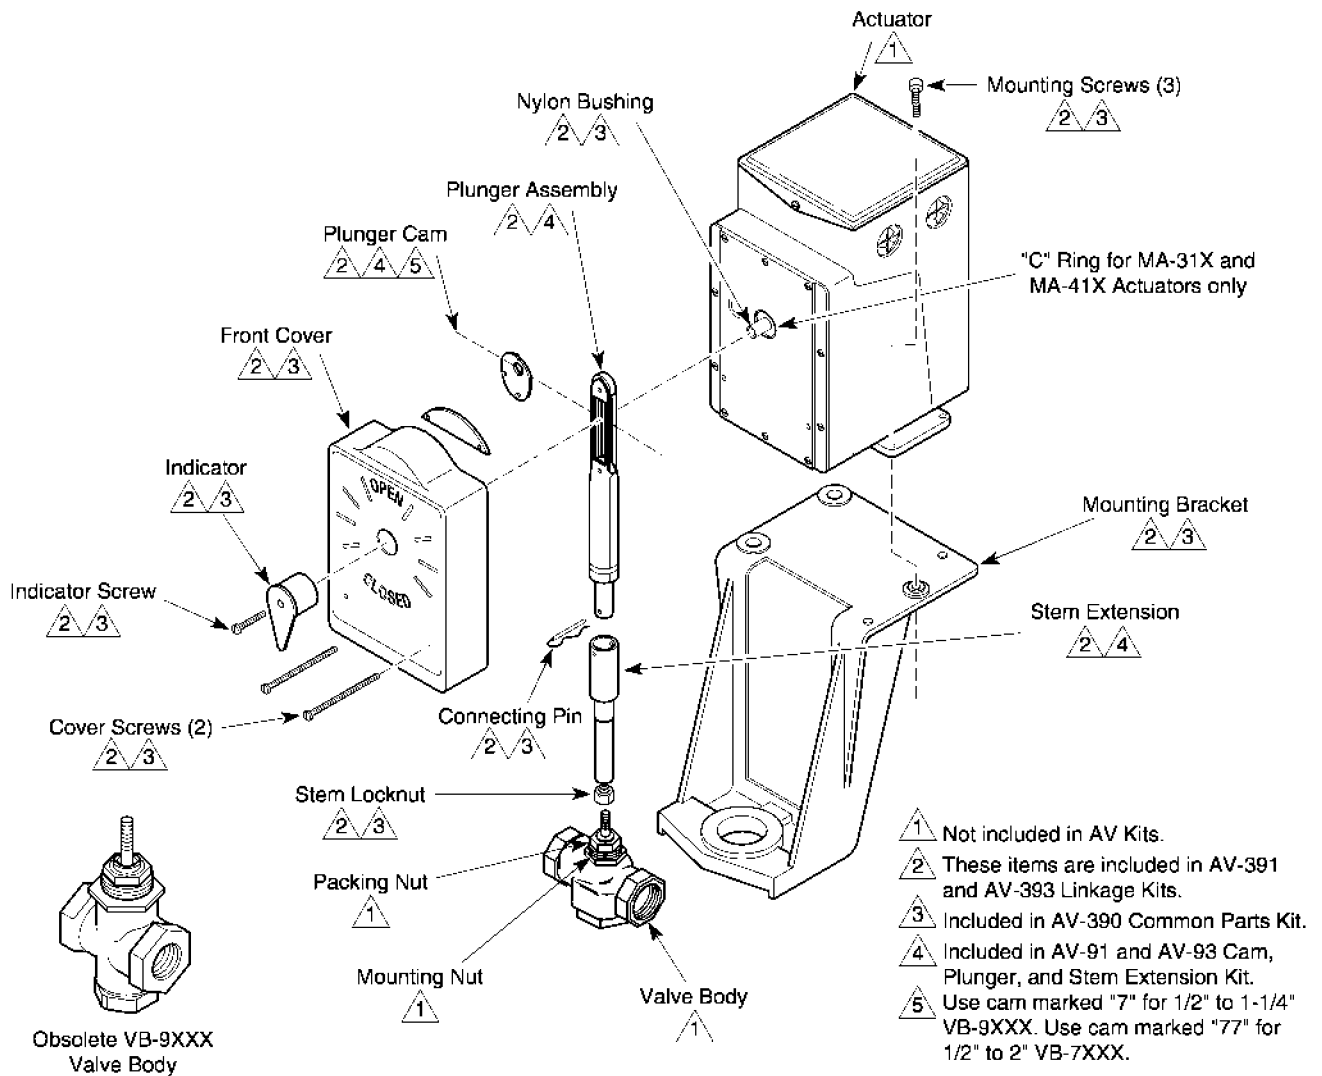

Figure-1 Valve Linkages for 1/2" to 2" VB-7XXX and Obsolete 1/2" to 1-1/4" VB-9XXX Valve Bodies.
1. Mount the bracket on the valve body by screwing the mounting nut into the mounting bracket. Tighten the hex mounting nut, using a 1-5/8" open-ended wrench with a maximum thickness of 3/16" (TOOL-37). See Figure-1.
- a. For Style A VB-9XXX valve bodies, mount the bracket on the valve body by screwing the mounting nut into the mounting bracket. Tighten the hex mounting nut, using a 1-5/8" open-ended wrench with a maximum thickness of 3/16" (TOOL-37). See Figure-1.